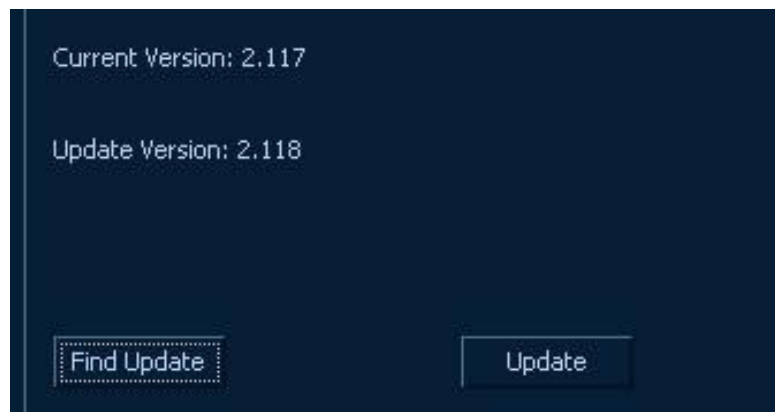

Figure 10-3 Update software version
- The system will automatically read out the update software package from the USB flash and display version information in “Update Version” as Figure 10-3.